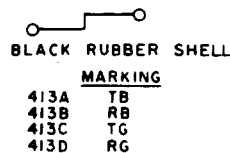

Fig. 9—413-Type Plug
**2.09 413A, B, C, and D:** The 413-type (Fig. 9) are test plugs designed to plug into a receptacle on 1A1-type protector units. The 413-type plugs form part of the 4W12A cord.